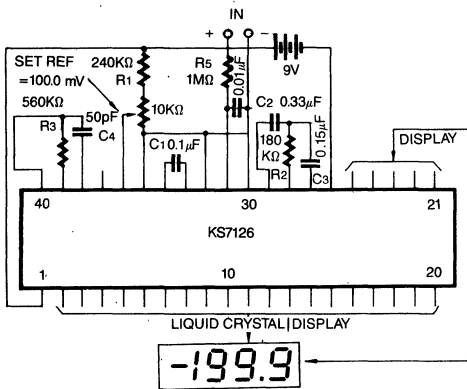

Figure 1: KS7126 Clock Frequency 16 KHz (1 reading/sec.)
- 3) Unless otherwise noted, specifications apply  $T_a=25^\circ\text{C}$ ,  $f_{\text{CLOCK}}=16\text{KHz}$  and are tested in the circuit of Figure 1.